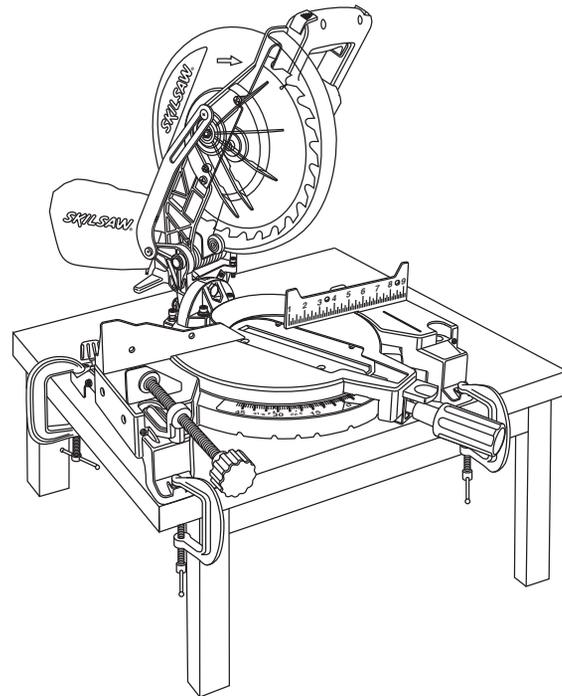

FIG. 11
- Place three or more "C" clamps on the clamping areas and secure (Figure 11).